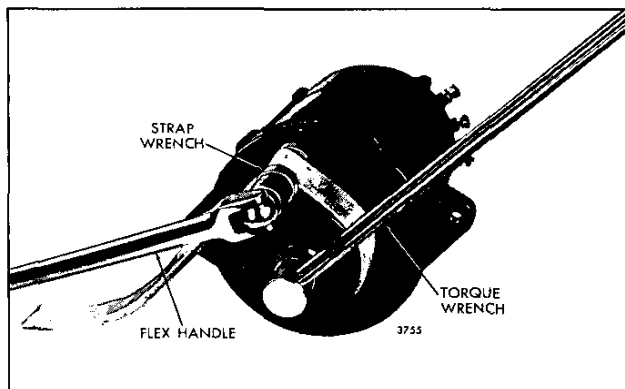

Fig. 3 – Tightening Alternator Pulley Retaining Nut
4. Remove the pulley assembly if the alternator is to be replaced (Fig. 3).
1. Install the drive pulley, if it was removed. Tighten the 5/8" - 18 pulley retaining nut to 70-80 lb-ft (95-108 N·m) torque (Fig. 3).